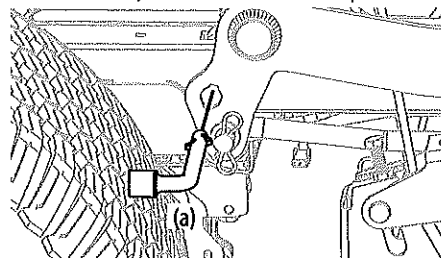

Figure 42
5. On tractors equipped with the deck lift knob, use the deck lift pedal and deck lift knob to place the deck in the lowest position and use the multi-tool (a) to lock the deck lift components in place as shown in Figure 42. On tractors with a deck lift handle, lower the deck into the lowest position.